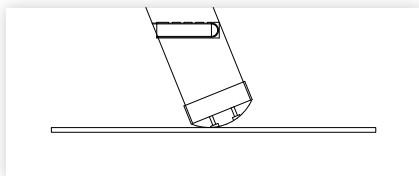

figure 11
3. Fix the rubber feet to the bottom of the ladder with the screws provided (figure 11).